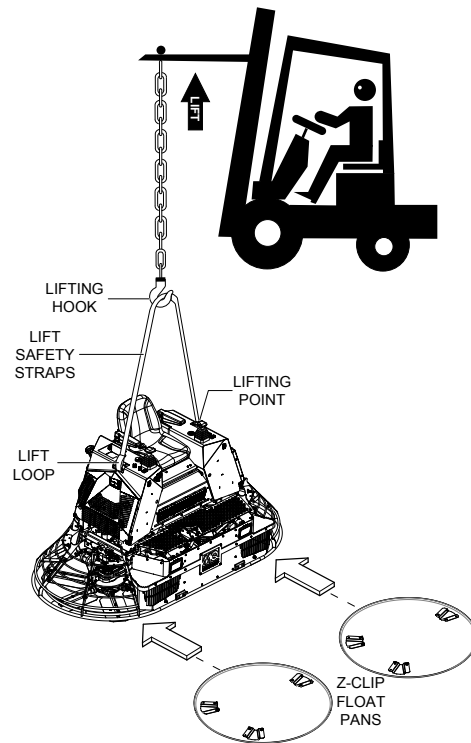

Figure 2. Positioning Z-clip Float Pans
1. Using a forklift (Figure 2), attach lifting safety straps to the lifting points of the trowel. Lift trowel approximately **six inches** off the ground.
2. Open the Z-clip Float Pan Kit. Confirm that it contains Z-clip blade tie-downs (2) and Z-clip tie-down knobs (2).
3. Slide/Position the Z-clip float pans (Figure 2) under the blade assembly.